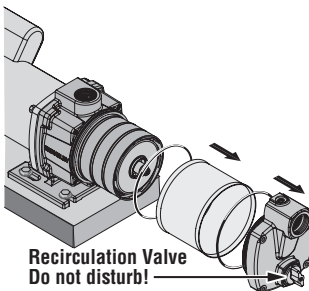

Figure 18
6. Pull the pump suction body forward (see Figure 18). Remove the sleeve (Key No. 9) by pulling it straight forward. Be careful not to damage the O-rings on the bracket and suction body.